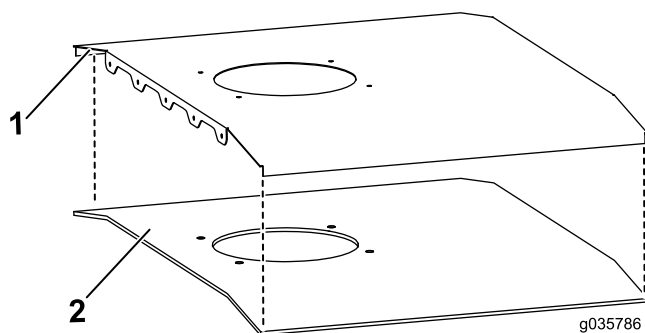

Figure 1
2. Attach the ceiling foam to the ceiling plate, lining up the fan hole and bolt holes (Figure 1).